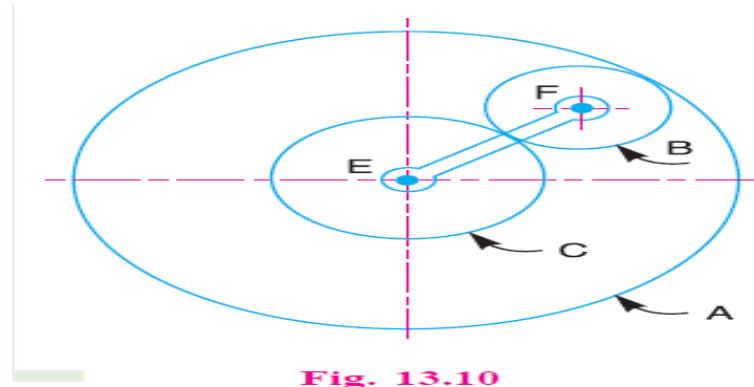

Fig. 13.10
7. An epicyclic gear consists of three gears A, B and C as shown in Fig. 13.10. The gear A has 72 internal teeth and gear C has 32 external teeth. The gear B meshes with both A and C and is carried on an arm EF which rotates about the center of A at 18 r.p.m.. If the gear A is fixed, determine the speed of gears B and C 10M